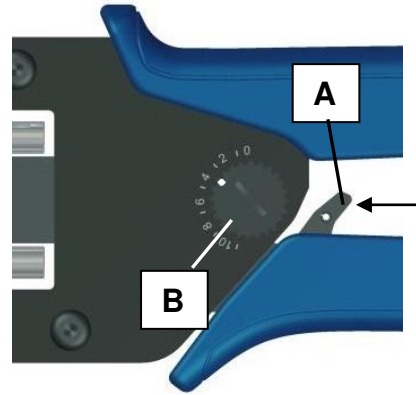

Fig. 5.
- ❑ Using a finger, push the ratchet relief (A), located inside the moving handle, (Fig. 5.) in direction as shown to unblock the tool, and remove obstruction before continuing with the work.
2. Press the nut until toothed adjustment wheel (B) (Fig.5.) is lifted so it can be rotated freely